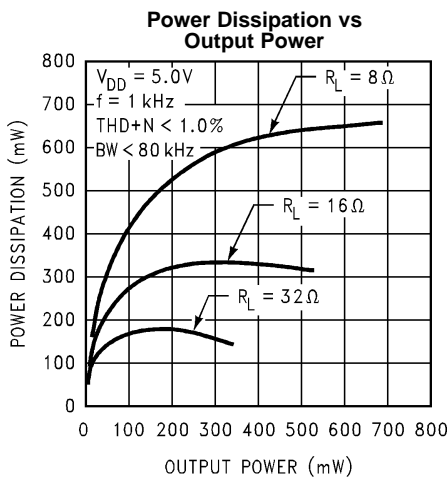

Figure 21.
- (1) All voltages are measured with respect to the ground pin, unless otherwise specified.
- (2) Absolute Maximum Ratings indicate limits beyond which damage to the device may occur. Operating Ratings indicate conditions for which the device is functional, but do not ensure specific performance limits. Electrical Characteristics state DC and AC electrical specifications under particular test conditions which ensure specific performance limits. This assumes that the device is within the Operating Ratings. Specifications are not specified for parameters where no limit is given, however, the typical value is a good indication of device performance.
- (3) Typical values are measured at 25°C and represent the parametric norm.
- (4) Limits are specified to TI's AOQL (Average Outgoing Quality Level).
- (5) Datasheet min/max specification limits are specified by design, test, or statistical analysis.
- (6) The quiescent power supply current depends on the offset voltage when a practical load is connected to the amplifier.
- (7) The NGY0010A package has its exposed-DAP soldered to an exposed 1.2in^2 area of 1oz printed circuit board copper.
- (8) The DGK0008BA package is thermally limited to 595 mW of power dissipation at room temperature. Referring to Figure 21 in Typical Performance Characteristics, the power dissipation limitation for the package occurs at 300 mW of output power. This package limitation is based on 25°C ambient temperature and $\theta_{JA} = 210^{\circ}\text{C}$. For higher output power possibilities refer to POWER DISSIPATION.